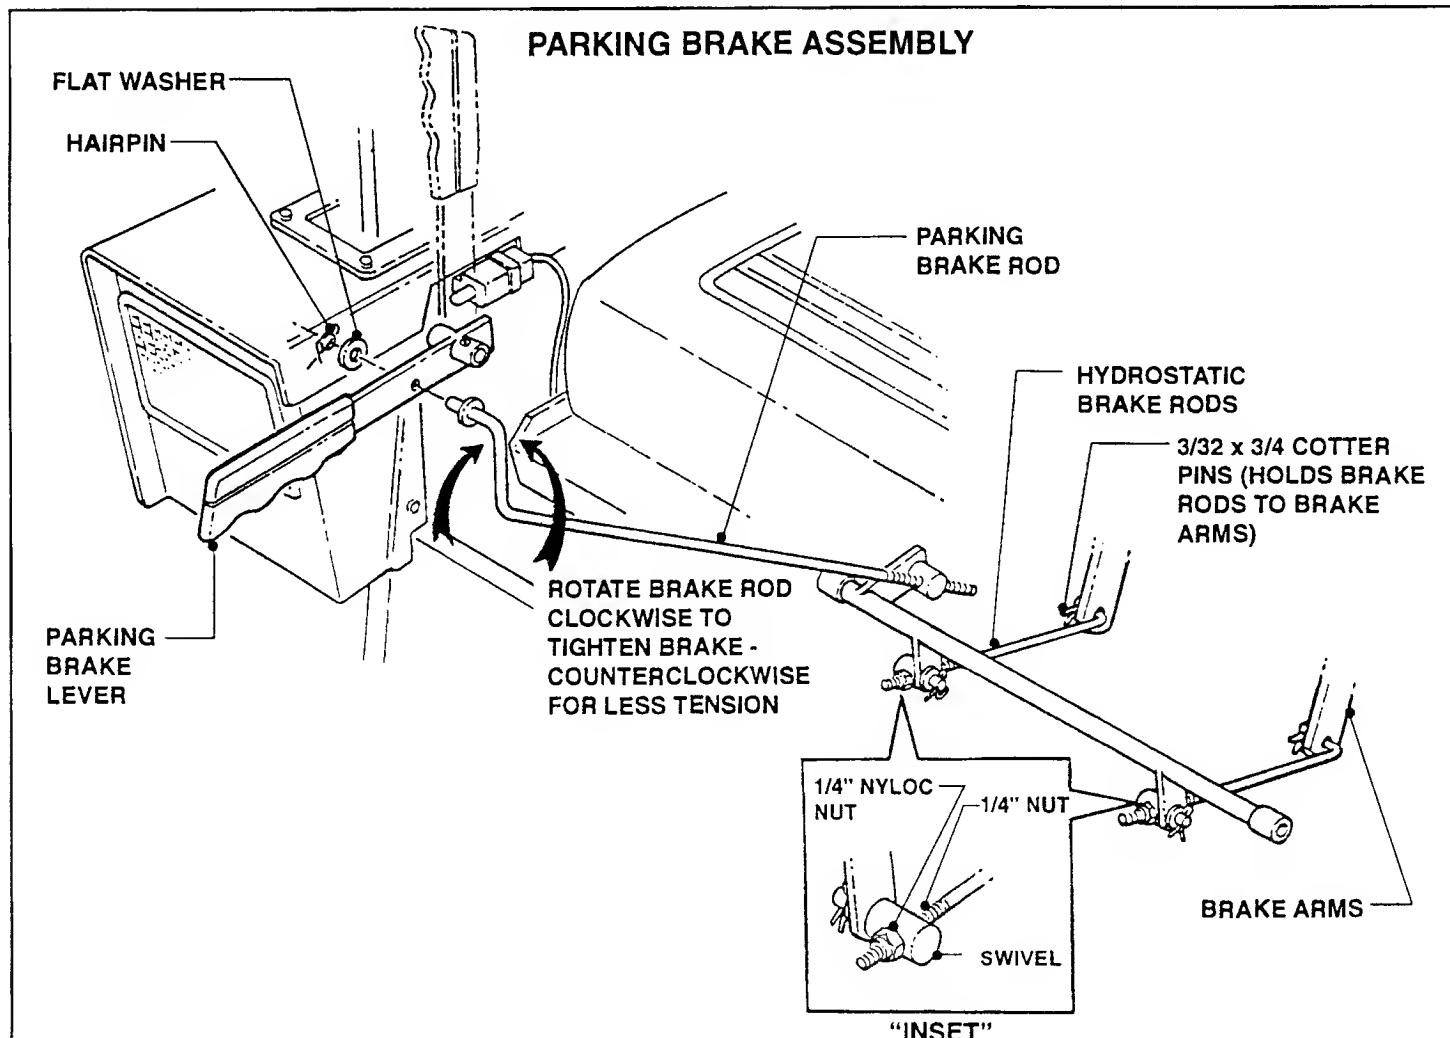

FIGURE 5.6
- a) Disconnect Parking Brake Rod from Park Brake Lever. See Figure 5.6.
- b) Rotate Rod clockwise one (1) turn to tighten Brake or counterclockwise to loosen Brake tension.
- a) Rotate nut 1/2 turn clockwise to tighten Brake. (See "Inset", Figure 5.6).
- Disconnect the Hydrostatic Brake Rod by removing the 3/32 x 3/4" Cotter Pin from the 1/4" Swivel. Refer to Figure 5.6, Pg. 5.4.
- G. Disconnect the Hydrostatic Brake Rod by removing the 3/32 x 3/4 Cotter Pin from the Brake Arm. Refer to Figure 5.6.